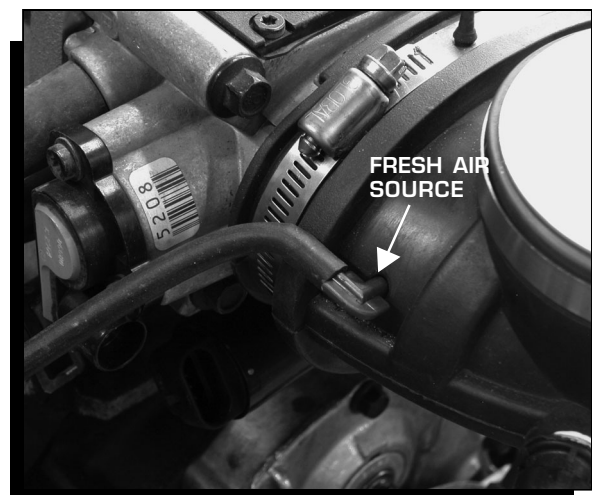
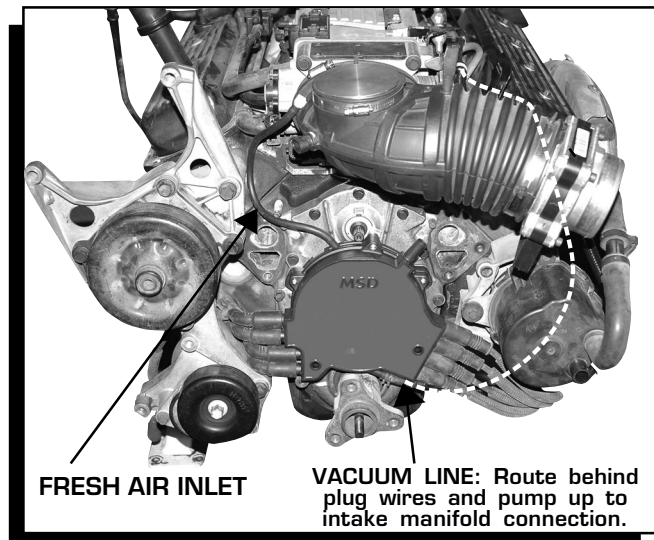

Figure 9 Installing the Fresh Air Line.
Figure 11 Fresh Air Hose Routing.
4. Locate the supplied 90° vacuum nipple. Using a 3/16" drill bit, drill a hole in the air intake duct and install the nipple (Figure 9). Make sure the barb goes through and into the duct. Connect the line from the distributor cap to this inlet. This line completes the fresh air circulation through the distributor cap (Figure 11).